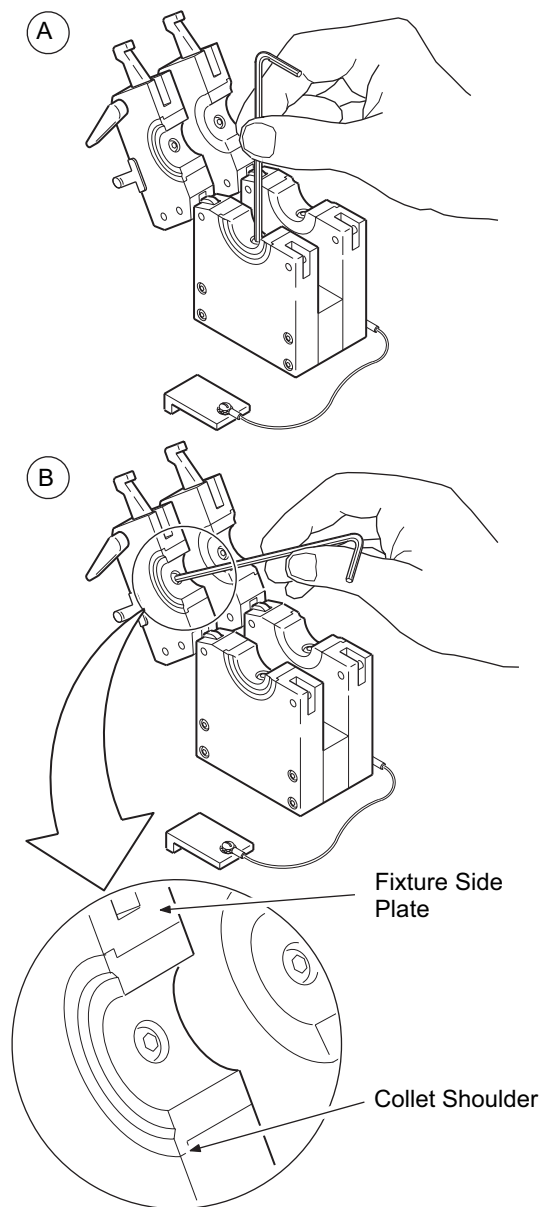

Figure 12 Installing Collets
2. Install the collet halves in both the top and bottom side plates and tighten the collet screws. Make sure the collet shoulder is flush against the fixture side plate. See Figure 12.